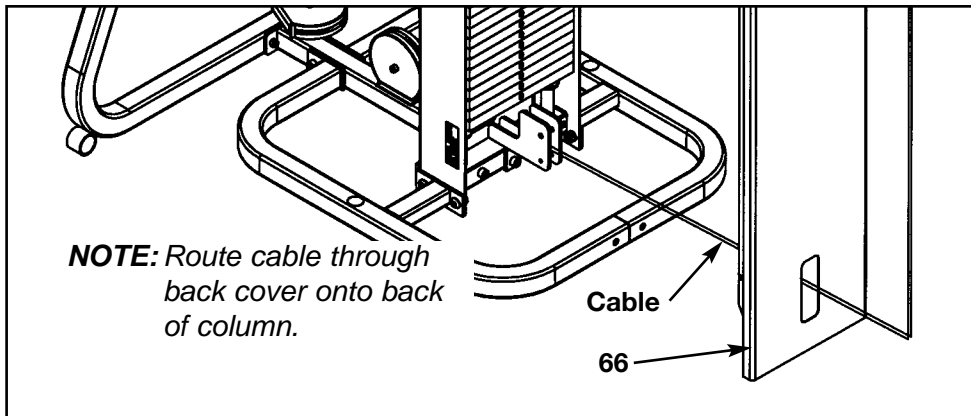

Figure 18
8. Routing Cable - Free Standing configuration only (see steps 8A - 8J and Figures 18 - 22).
- B.** Route cable through lower slot in back cover (#66) and place back cover onto back of column. See Figure 18.